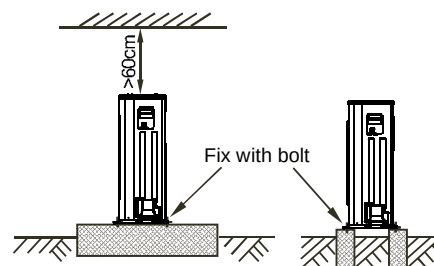

Fig.7-6
- Make concrete foundation according to the specifications of the outdoor units.(Refer to Fig.7-6)
- Fasten the feet of this unit with bolts firmly to prevent it from collapsing in case of earthquake or strong wind.(Refer to Fig.7-6)